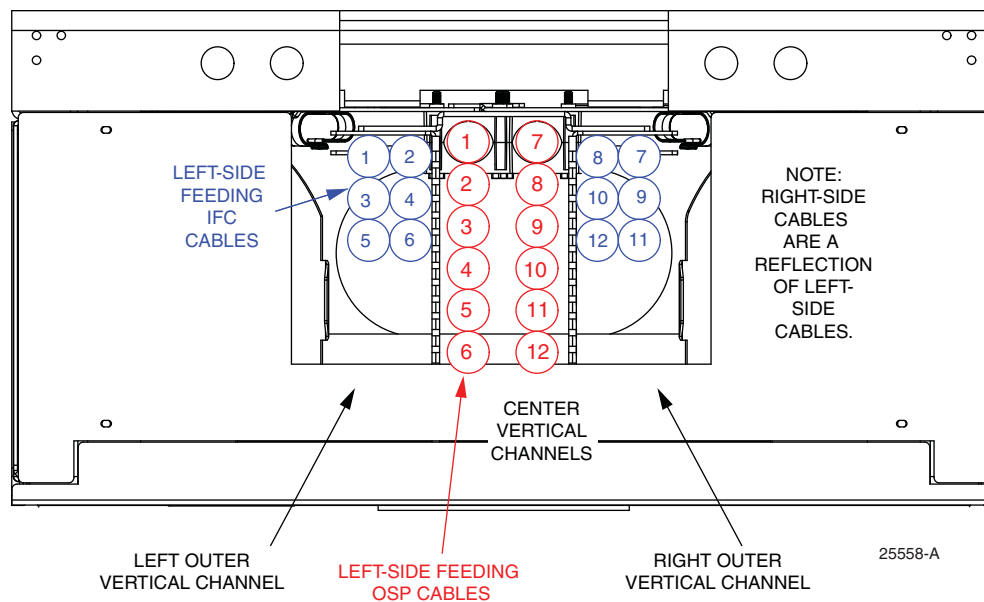
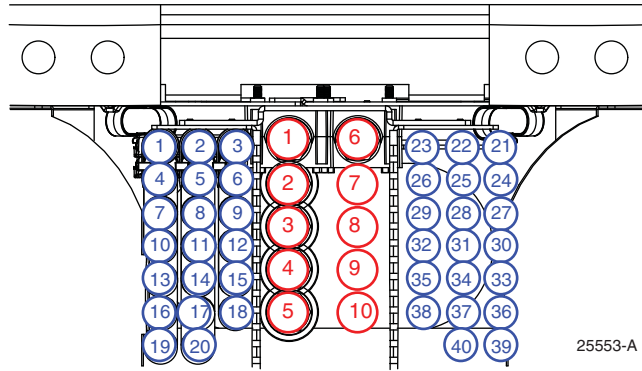

Figure 4. Top Down View of Cable Placement in Bay
Figure 5. Example of 10 OSP Cables, 40 IFC Cables
2. Obtain a general sense of how cables enter the bay. All cables are routed in from above through the vertical channels, as shown in the top down views in Figure 4 and Figure 5. Figure 4 shows an example of 12 OSP cables and 12 IFC cables. Figure 5 shows an example of 10 OSP cables and 40 IFC cables.
Note: IFC cables are installed in rows of two or three depending on size. Install the first IFC cable on the left side of the bay in the leftmost of the two or three available positions. When installing an IFC cable on the right side of the bay, install the cable in the rightmost of the two or three available positions. For an top down view of cable placement, refer Figure 4 on Page 5 and Figure 5 on Page 6.
- a. Position the IFC cable in the outer vertical corridor on the same side as the splice shelves where the splices for the cables will be stored. Refer to Figure 4 on Page 5 and Figure 5 on Page 6 for a description of cable placement.